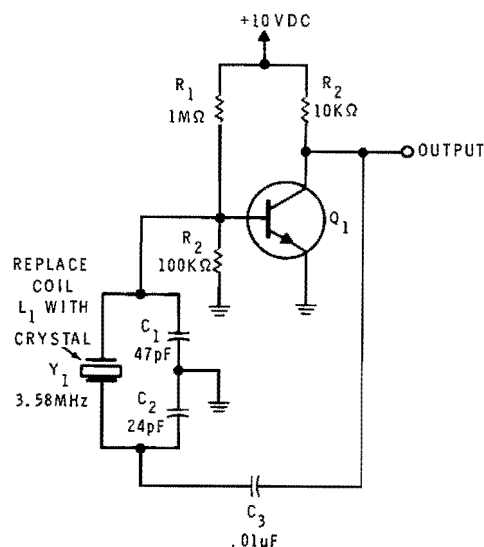

Figure 5-50
- Turn off the Trainer. Refer to Figure 5-50 and remove the 47 microhenry inductor; then connect the crystal in its place. Be sure to connect the 0.01 microfarad feedback capacitor to the tank circuit as shown.